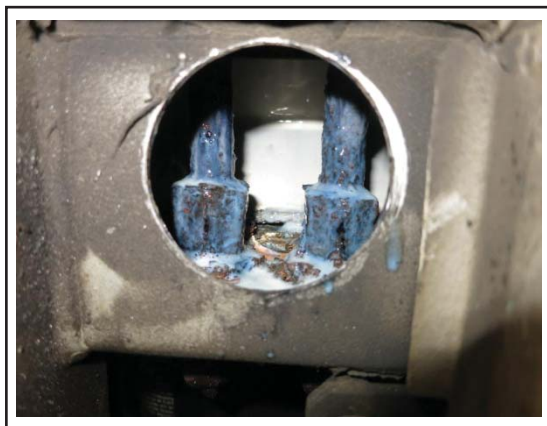

Figure 5 - Solurouille Type Rust Converter Applied on Rusty Parts
- 1.7. Apply N8902766 Solurouille rust converter, or equivalent, on the bulkheads and piping only if rust is visible on those parts. See Figure 5.